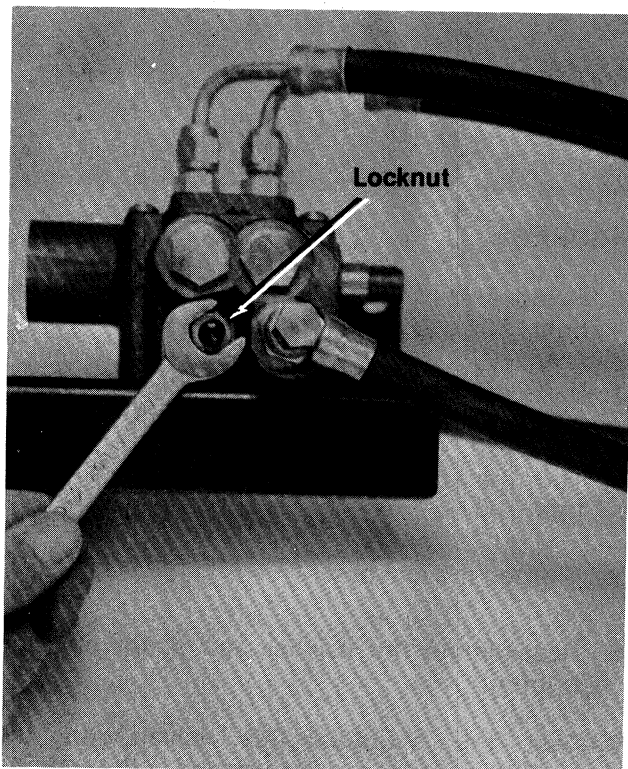

FIGURE 34.
2. Back off the locknut at least three complete turns. (See figure 34.)